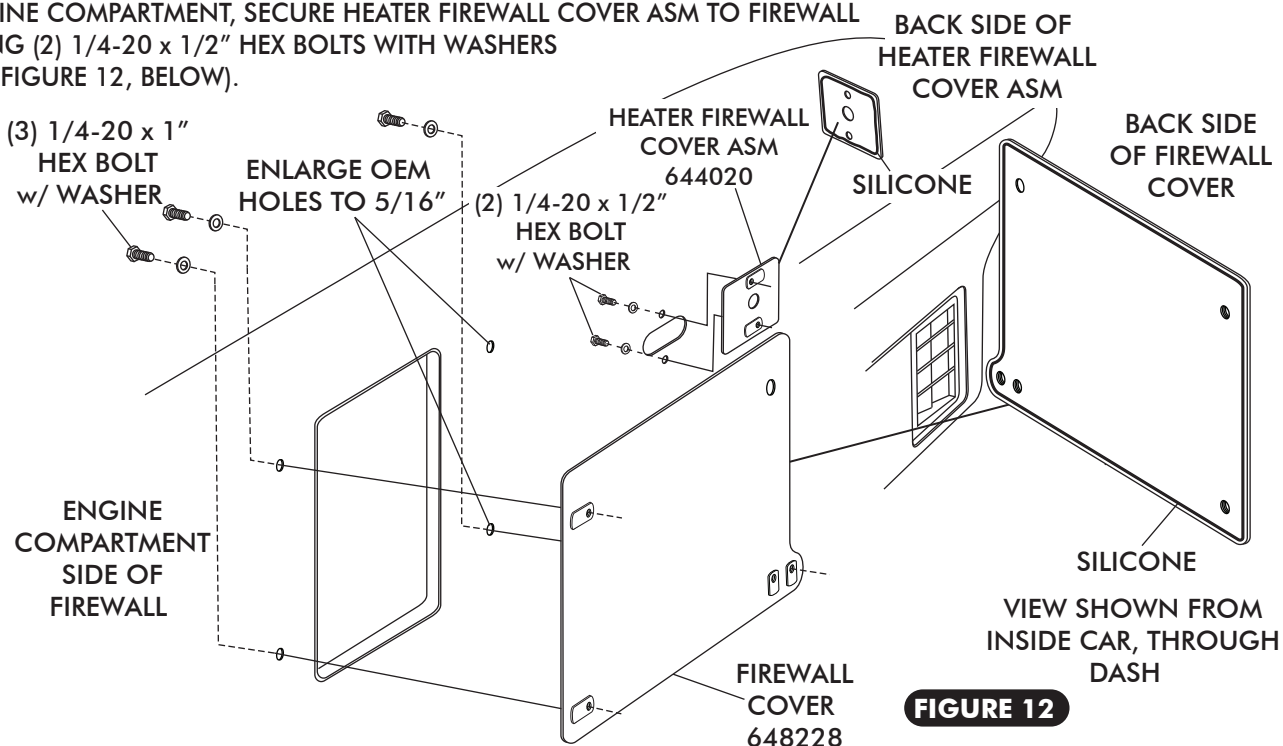

FIGURE 12
- ☐ ENLARGE (2) OEM FIREWALL HOLES TO 5/16" (SEE FIGURE 12, BELOW).
- ☐ APPLY A 1/4" BEAD OF SILICONE AROUND THE BACK SIDE OF THE FIREWALL COVER (SEE FIGURE 12, BELOW).
- ☐ FROM INSIDE THE CAR, INSTALL THE FIREWALL COVER ON THE FIREWALL (SEE FIGURE 12, BELOW). FROM THE ENGINE COMPARTMENT, SECURE THE FIREWALL COVER TO THE FIREWALL USING (3) 1/4-20 x 1" HEX BOLTS WITH WASHERS (SEE FIGURE 12, BELOW).
- ☐ APPLY A 1/4" BEAD OF SILICONE AROUND THE BACK SIDE OF THE HEATER FIREWALL COVER BRACKET AS SHOWN IN FIGURE 12, BELOW.
- ☐ FROM INSIDE THE CAR, INSTALL HEATER FIREWALL COVER ASM ON FIREWALL (SEE FIGURE 12, BELOW). FROM THE ENGINE COMPARTMENT, SECURE HEATER FIREWALL COVER ASM TO FIREWALL USING (2) 1/4-20 x 1/2" HEX BOLTS WITH WASHERS (SEE FIGURE 12, BELOW).